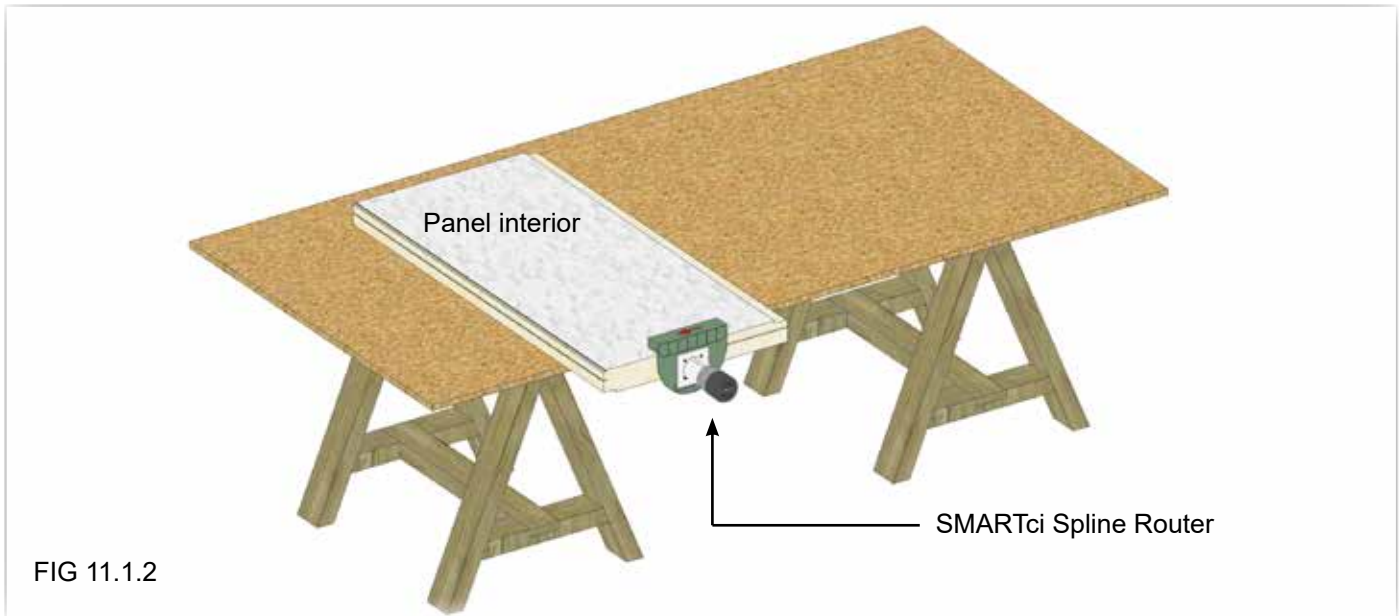

FIG 11.1.2
11.2 Custom Panel Routing The second step in installing custom-sized panels is necessary when the newly-sized panel is connecting to another panel or into a GreenGirt. Using the provided SMARTci Spline Router and SMARTci Edge Router profiling attachments, follow the procedures as indicated in Ref. FIG 11.1.2.